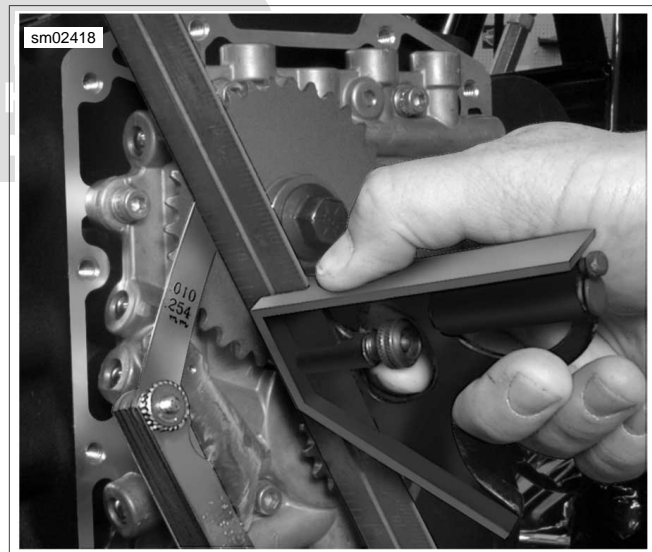

Figure 3-64. Check Alignment of Crank and Rear Cam Sprocket Faces
- e. See Figure 3-64. Place a straightedge across the crank and primary sprocket faces. Attempt to insert a 0.010 in. (0.254 mm) feeler gauge between the straightedge and the each sprocket face. If the feeler gauge will not fit at either location, sprocket offset is within specification. Remove both sprockets and discard temporary small washer.